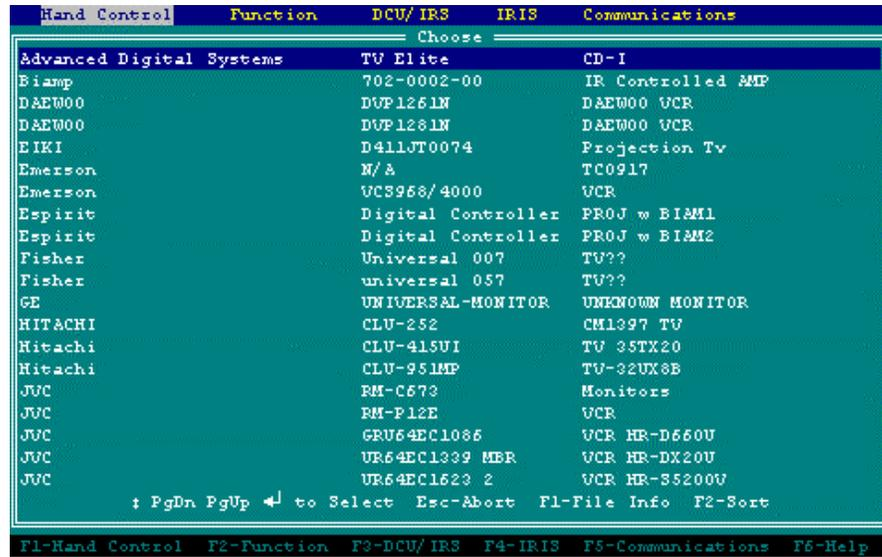

Figure 6. “Choose IR Device” Dialog Box
2. The cursor's position will default to the “Select” command. Press *Enter* to accept this choice. This will open the dialog box shown in Figure 6.